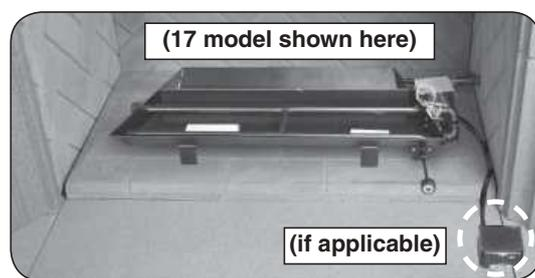

Fig. 11-3 Orientation (place receiver if applicable)
3. Place the burner system in the fireplace. Center the burner in the fireplace. (Reference Fig. 11-3 for orientation.)
8. **For 17 models only:** place the plastic cover over the receiver, then place at the front right corner of the fireplace. Place as far from the burner system as possible. See Fig. 11-3.